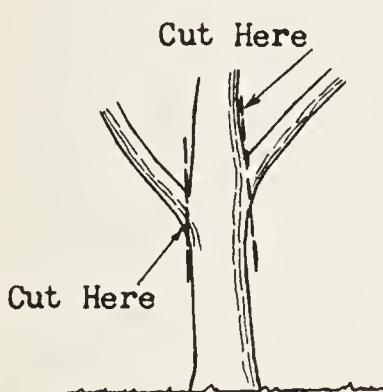

Figure 5
4.2 Cut off small branches at their meeting place with a limb that is growing in the direction you wish the tree to develop. In cutting a limb at a croetch, the cut should be parallel with the stem from which the limb has grown. It should be made as close as possible to the remaining branch in order that the bark may grow over the wound as quickly as possible. Undercut first to prevent stripping the bark. Do not leave stubs. The stub will die and be a starting place for decay and boring insects. Figures 5 and 6 of Exhibit A illustrate methods of cutting unwanted branches.